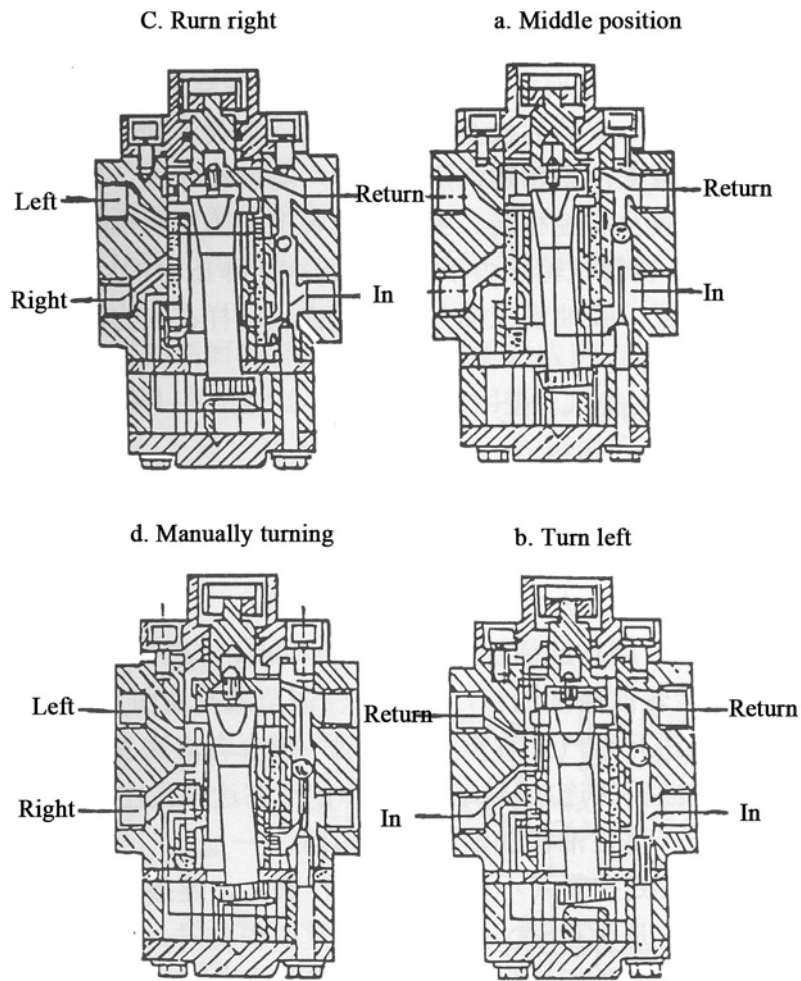

Fig 6.4 Diagram of Redirector Oil Way
6.1.2 Working Principle (see Fig 6.4)
In middle position (steering wheel not turn), in the system, the coming oil of oil pump will return to oil tank through internal chamber of valve core (a in Fig 6.4). In power steering, the coming oil of pump enters in the swing gear mesh pair through follow-up valve and pushes rotator turning with the steering wheel, and presses certain amount oil in the left or right chamber of cylinder, to push the steering wheel realizing power steering. The oil in another chamber shall return to the oil tank (b, c in Fig 6.4).
When engine stops, the steering wheel is controlled by human power, through valve core, pull pin, and linkage shaft to drive the rotator to press the oil from one chamber of cylinder to another, and impel the steering wheel to realize manually turning (d in Fig 6.4). The oil tank shall be supplemented with oil through oil supplement single way valve.